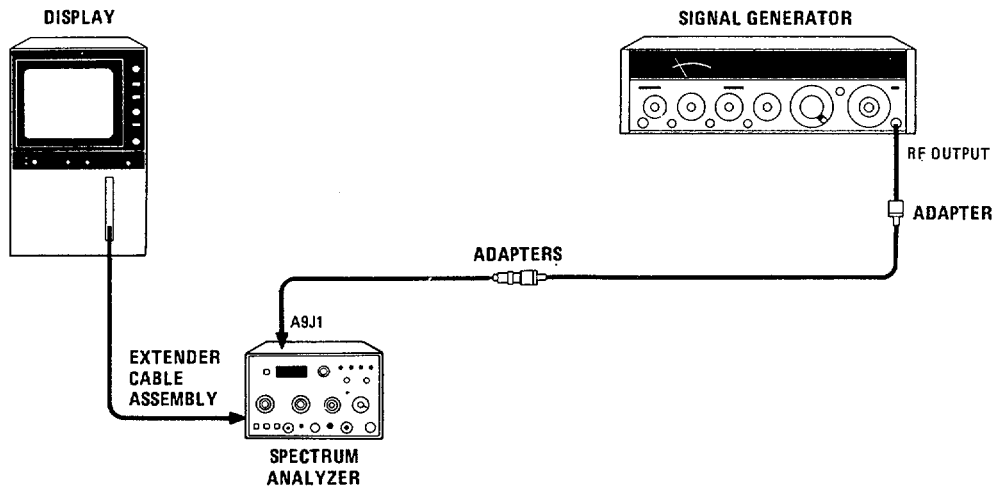

Figure 4-9. Resolution Bandwidth Accuracy Test Setup, 1 kHz to 30 kHz
13. Connect equipment as shown in Figure 4-9. Remove W7P1 from A10OJ2. Connect signal generator through adapters to W7P1.